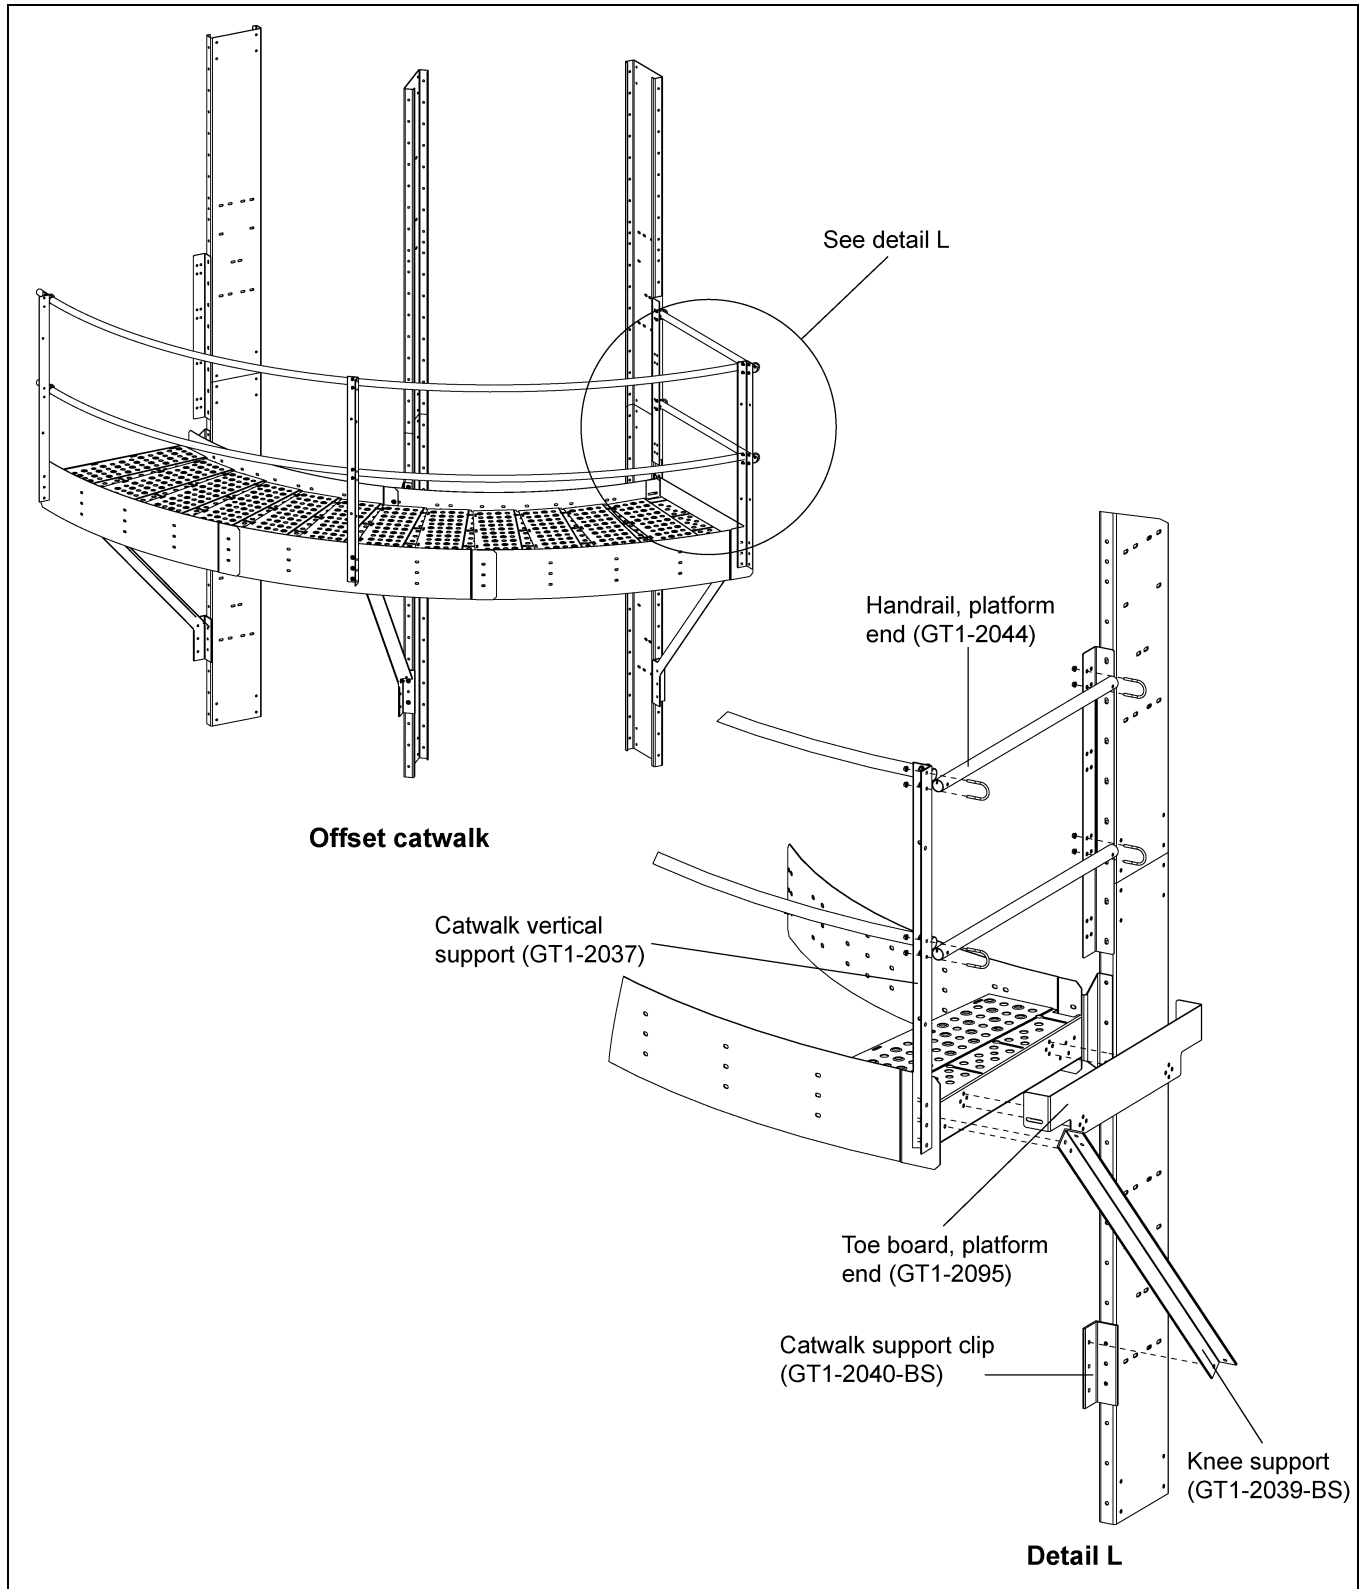
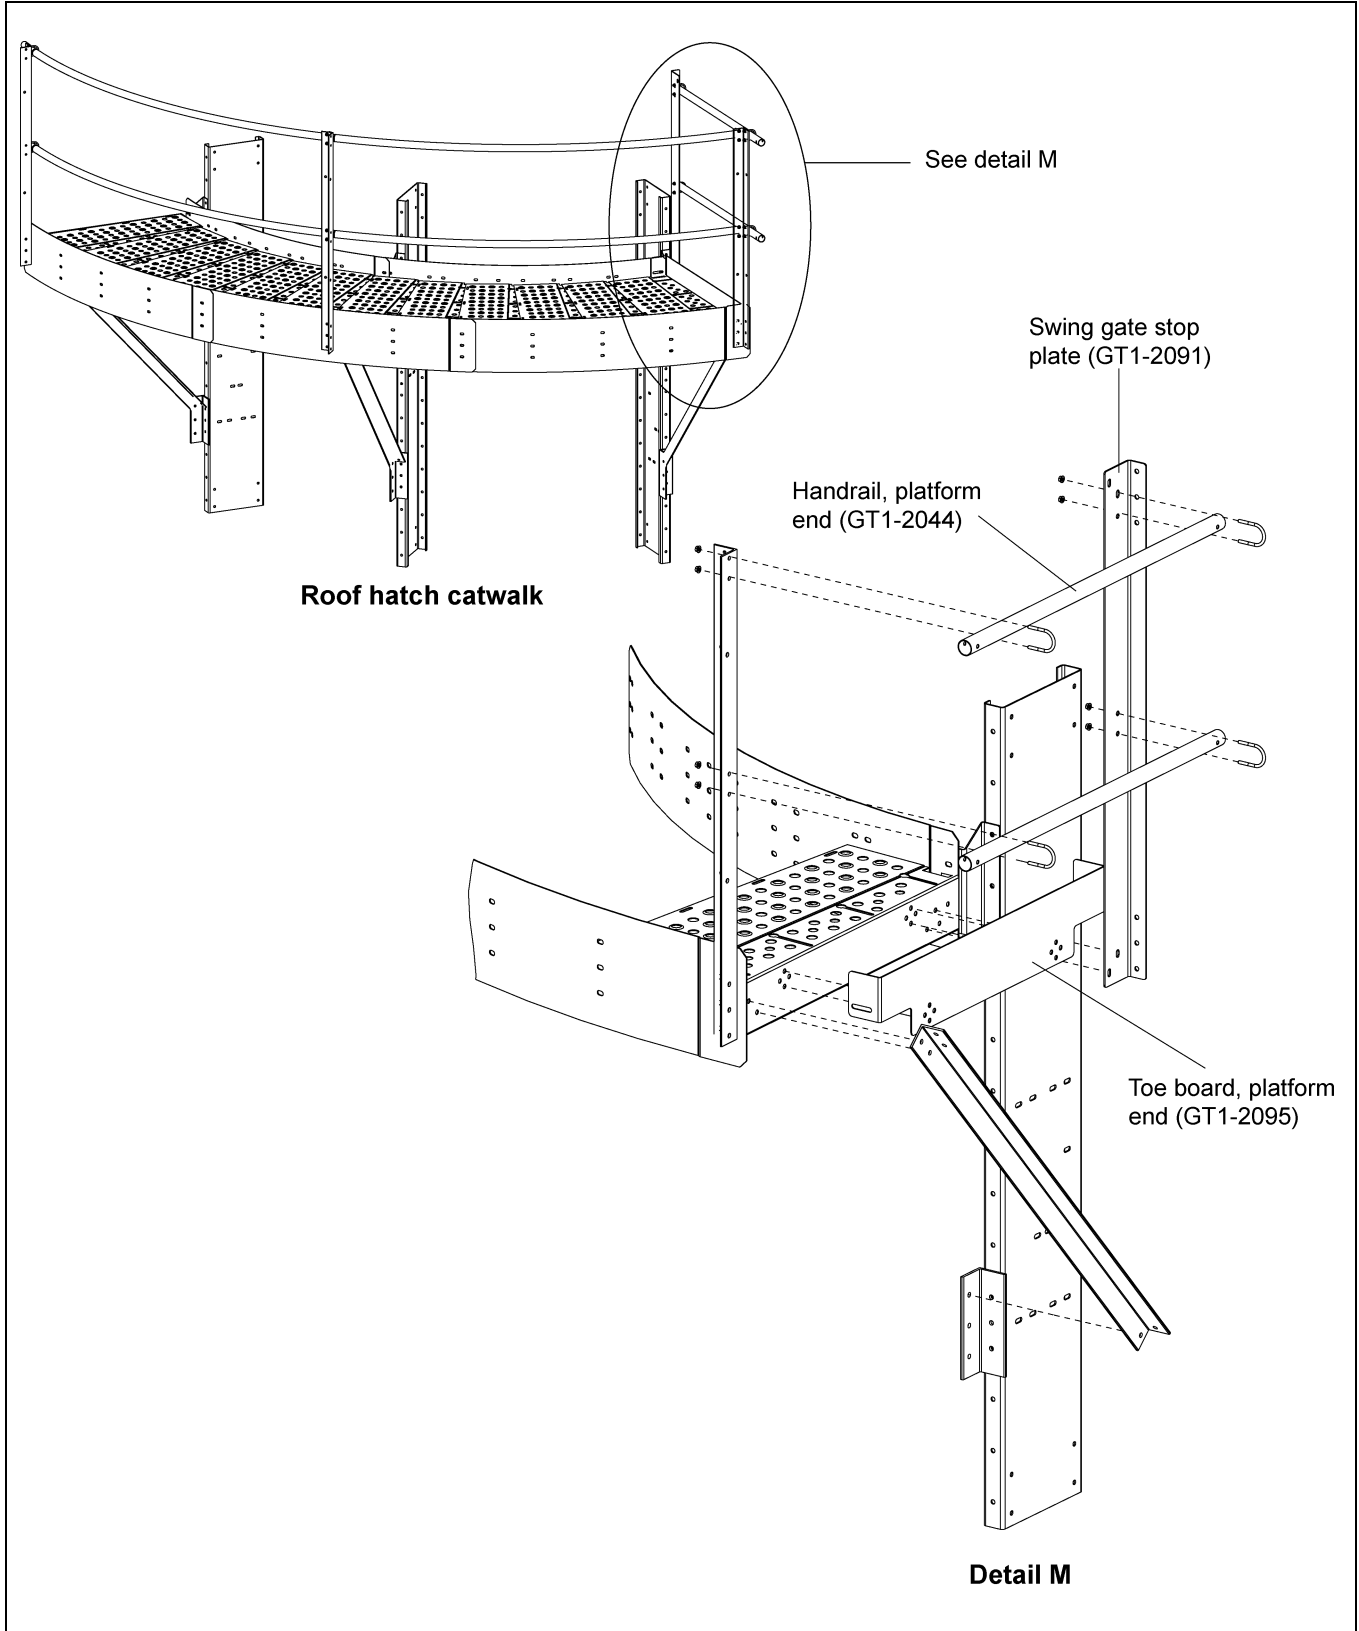

Figure 6V Offset Platform End Handrail (GT1-2044) Installation
Figure 6W Roof Hatch Platform End Handrail (GT1-2044) Installation
3. Install the platform end handrail (GT1-2044) to the catwalk vertical support (GT1-2037-BS) and the platform end plate (GT1-2045). (See Figure 6V below and Figure 6W on Page 59.)